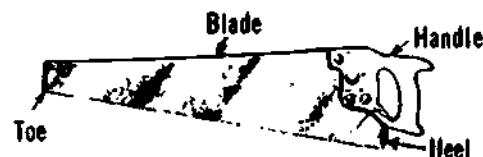

Figure 1-102. Typical Handsaw
- b) Shown in Figures 1-102 and 1-103 are a typical handsaw (which could be either a crosscut or a ripsaw) and a compass saw respectively. A keyhole saw is similar to the compass saw but is much smaller.